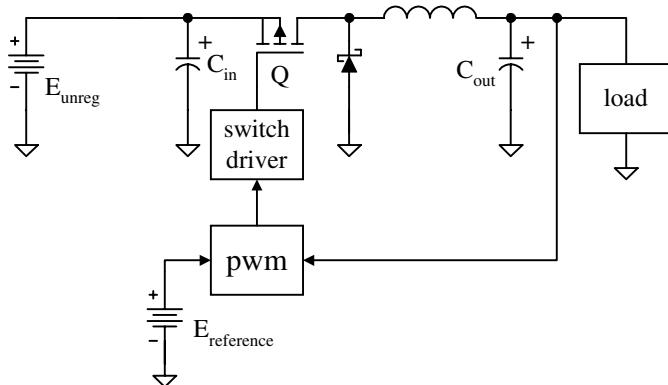

Figure 7-17 Schematic for Problems 7-1 through 7-4
- 7-1** Analyze the circuit in Figure 7-17. Calculate the following, given:
- 7-3** Design the circuit in Figure 7-17. Calculate the following, given:
- 7-4** Design the circuit in Figure 7-17. Calculate the following, given: